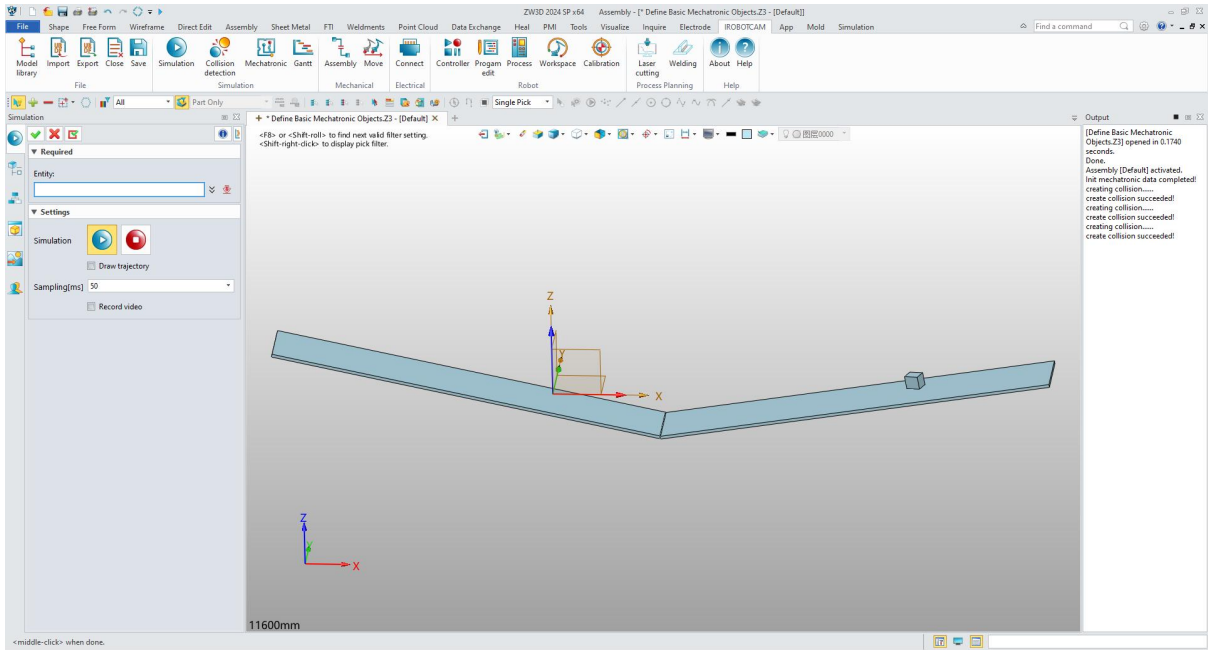

Figure 5-16: Simulation verification
- Click the simulation button to verify the defined mechatronic objects. (Figure 5-16)